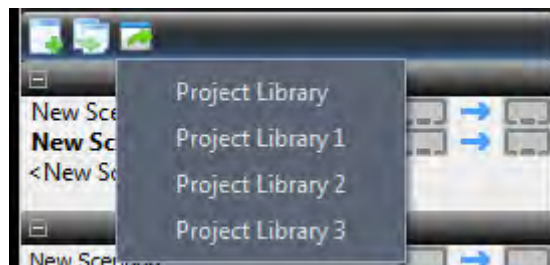

Figure 6.16: Export InFusion Library Icon
1. Click the **Export Library** icon to view the Project Library menu. Use this to choose a library to Export. See Figure 6.16.